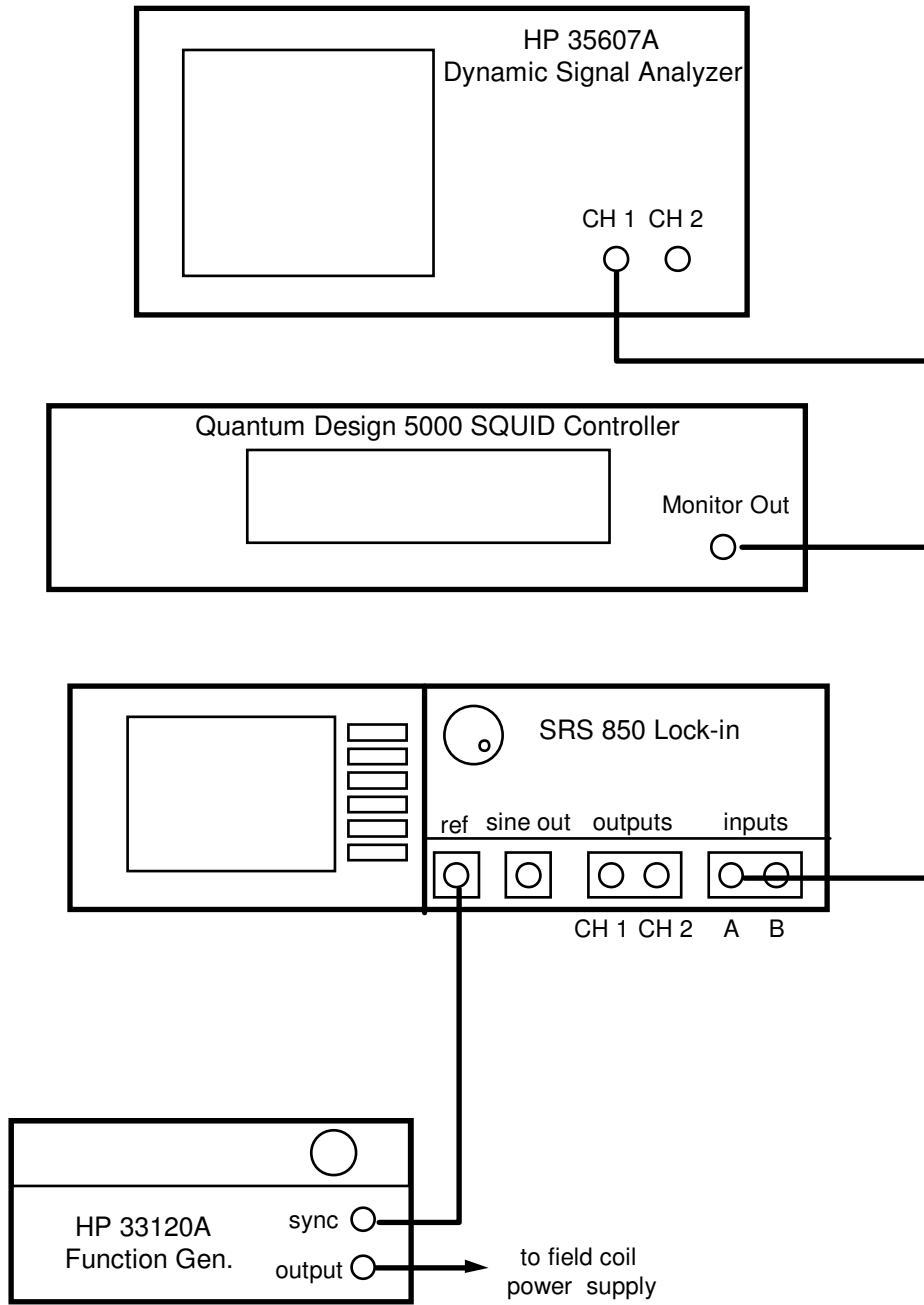

Fig. 3 Instrumentation block diagram.
L.6.2 Connect the Lock-in amplifier, SQUID magnetometer, Signal Analyzer, and Function Generator as shown in Fig. 3. If desired, connect the output of CH 1 of the Lock-in to one of the Soltec chart recorder channels with the gain set to 10 V f.s. The Signal Analyzer is useful for diagnostics (e.g. harmonic generation, signal / noise estimation) and for verifying the Lock-in results.